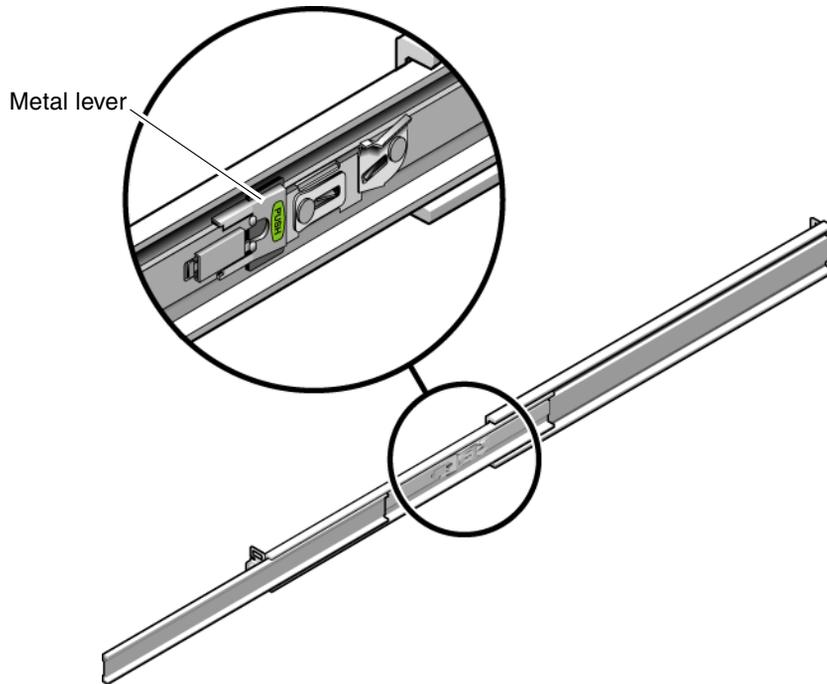

FIGURE 2-14 Unlocking the Slide Rail Middle Section
- d. Press the metal lever labeled Push on the middle section (FIGURE 2-14) of the sliding rail, and then push the middle section back into the rack.